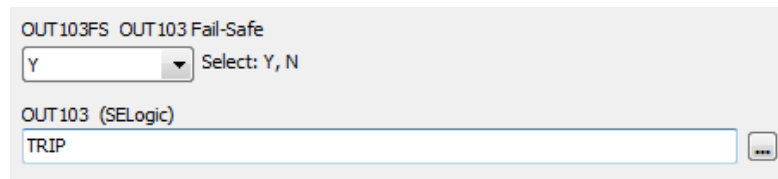

Figure 2 Example SEL-751A Feeder Protection Relay Fail-Safe Logic
- In the relay settings, set the fail-safe setting for the trip output contact to **Y**. See Figure 2 for details.